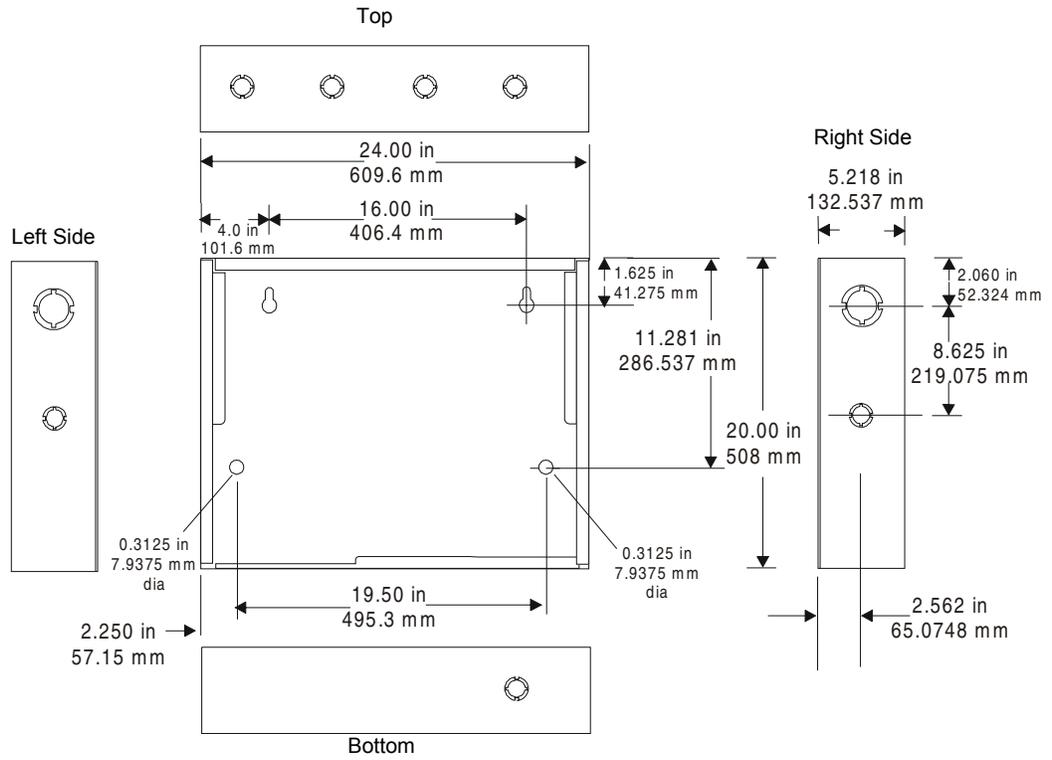

Figure 2.1 CAB-A3/CAB-A3B Dimensions & Knockout Locations
- ✓ Mark and predrill holes for the top two backbox mounting bolts using the dimensions shown in Figure 2.1. The top of the backbox should be approximately five feet above the floor